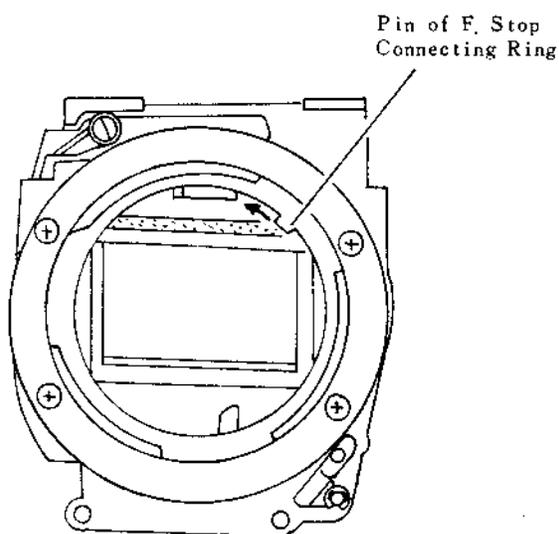

Fig 21
(8) Assembling and Adjustment of the Aperture Code Base Ass'y.
- a) Push Pin of F. Stop Connecting Ring in the direction of the arrow until stops. ($f/1.2$ aperture position). (Fig 21)